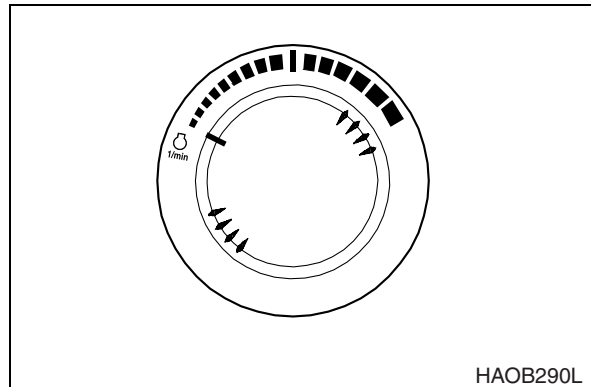

Figure 17
1. Run engine at “LOW IDLE” (no load) for 5 minutes (Figure 17).